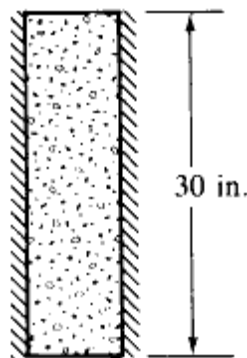

Figure 8
- Q.5 (a) Determine (a) the fluid head distribution along the length of the coarse gravelly medium shown in Figure 8 (b) the velocity in the upper part, and (c) the volumetric flow rate in the upper part. The fluid head at the top is 10 in. and that at the bottom is 1 in. Let the permeability coefficient be $K_{xx} = 0.5 \text{ in./s}$. Assume a cross-sectional area of $A = 1 \text{ in}^2$. For the finite element discretization use three elements, each 10 in. long. 07